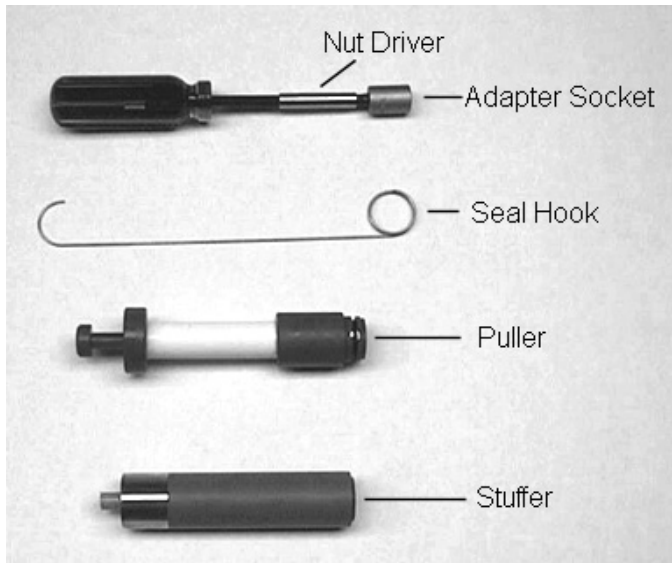

Figure 5
11. To replace seals, spacers and end ring, use special tool with the brass sleeve on one end. This is a double-purpose tool (see Figure 5). The male end acts as a pilot to hold the spacers as they are pushed into the valve body and the brass female end is used to insert the seals into the valve body.